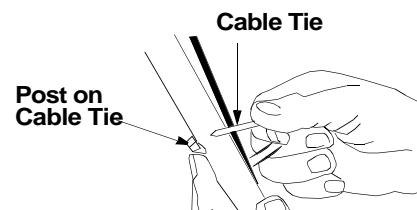

Figure 5
- Insert post of cable ties that are on lower handle into the holes provided on the lower handle. The holes may be on the inside or outside. Pull cable ties tight and cut off the extra. See Figure 5.